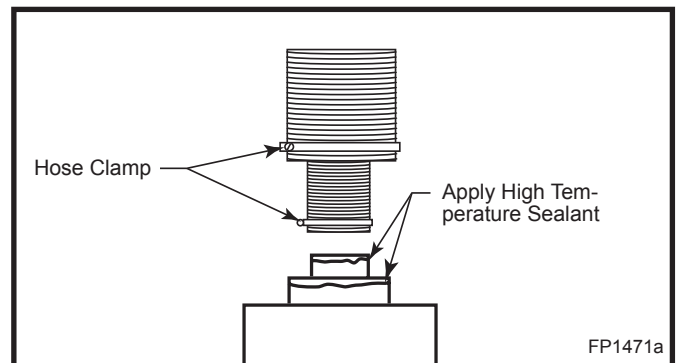

Fig. 8 Apply high temperature sealant to 4" and 7" pipes.
2. The gas control inlet is 3/8" NPT. typical installation layout for rigid pipe is shown in Figure 8.
1. Unscrew retaining screw from EB-1 base plate (Fig. 8) and remove the EB-1 assembly from the appliance.